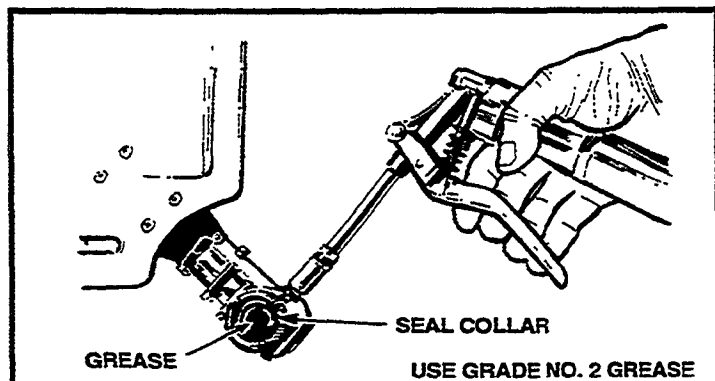

Figure 22
- Each 10 hours of use, the gearcase should be regreased by first removing cutting head (or blade), blade holders and seal collar (Figure 22).